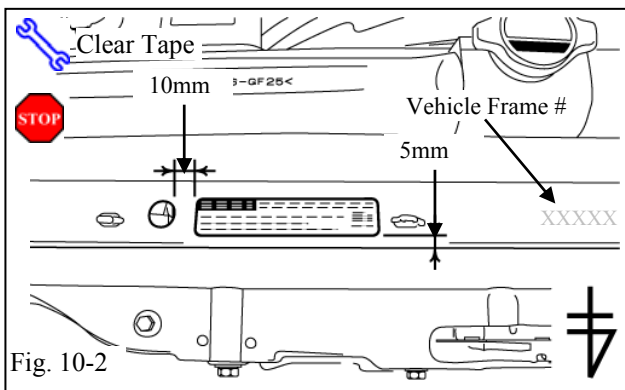

Fig. 10-2
- (c) Using VDC approved cleaner and Cleaning Method, clean the area indicated on the Engine Compartment. (Fig. 10-2)
- (d) Attach the Warning Label to the Engine Compartment on the Left Hand Side as shown. (Fig. 10-2)